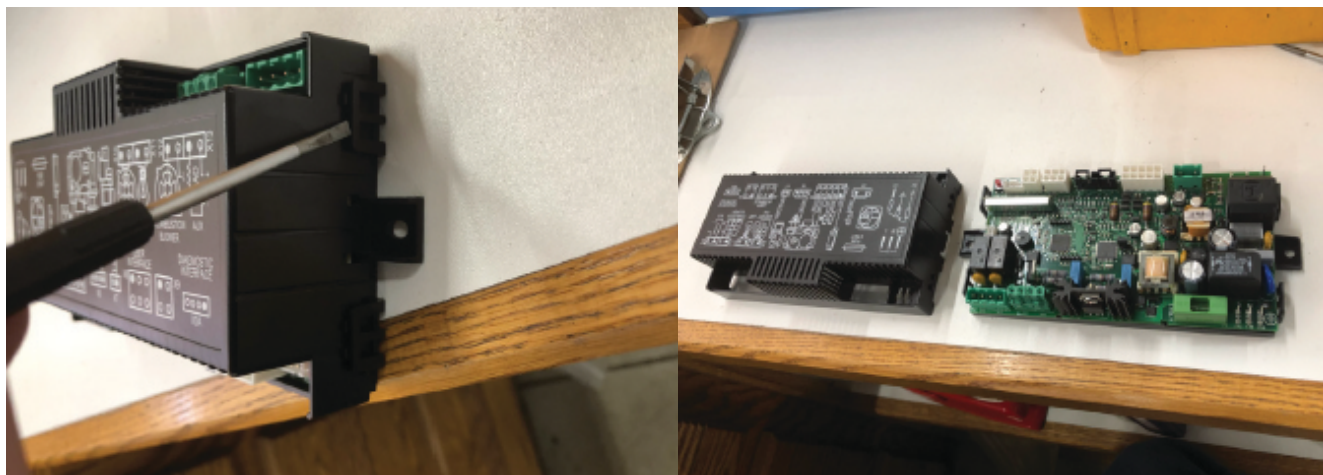

Figure 7.1 - Remove IFC Cover
1. Use a flat blade screwdriver to pry the tabs of the top cover of the control module to release, as shown in Figure 7.1.